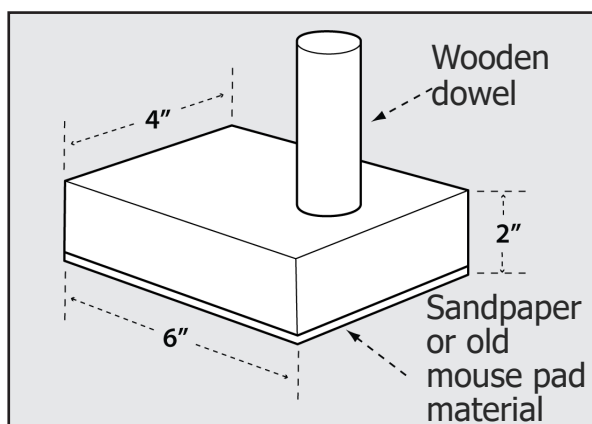

FIGURE 33
3. Glue a piece of rough or soft material such as sandpaper or rubber to the bottom of the block to grip the workpiece (old mouse pads work well). See Figure 33.